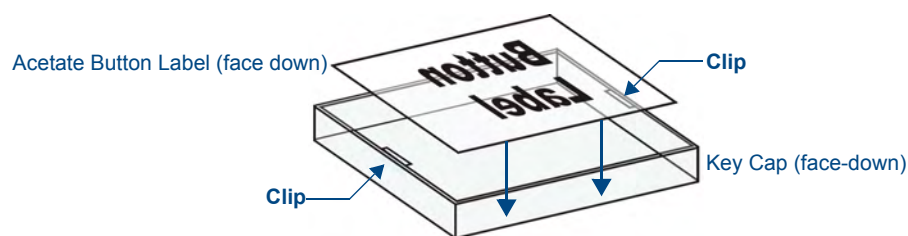

FIG. 2 Placing a Button Label inside a Key Cap
2. Place the Key Cap face-down, and insert the Button Label into the bottom of the Key Cap (FIG. 2).
- Orient the Button Label inside the Key Cap so that the two clips are located on the left and right sides of the readable text on the Button Label, as indicated in FIG. 2.
- Be sure to place the Button Label face-down inside the Key Cap (see FIG. 2), otherwise the label will be seen in reverse once the Key Cap is installed.